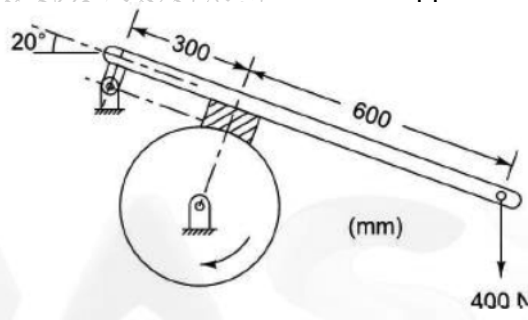

Fig.4.
- A brake drum of 440 mm in diameter is used in a braking system as shown in Fig.4. The brake lever is inclined at an angle of 20° with the horizontal. A vertical force of 400 N magnitude is applied at the lever end. The coefficient of friction is 0.35. The brake drum has a mass of 160 kg & it rotates at 1500 rpm. Determine the 05